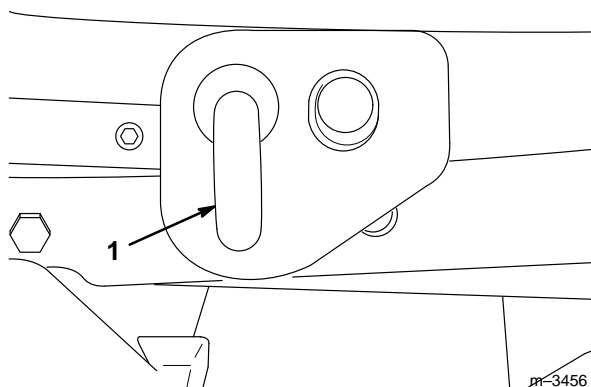

Figure 22
9. Pull the two spring-loaded J-pins from the deck lift arms and twist them slightly so that they stay disengaged (Fig. 22).